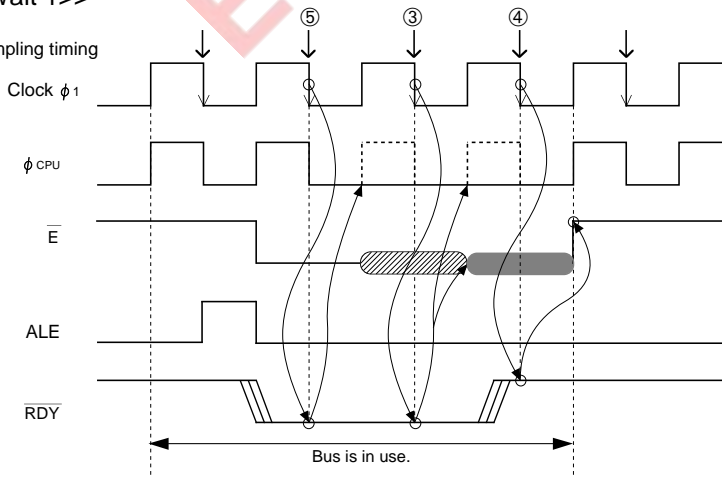

Fig. 12.3.1 Timings when ready state is accepted and terminated
- When the level of signal  $\overline{\text{E}}$  is "H" while the bus is in use (Refer to ② in Figure 12.3.1.)
- Immediately before a wait generated by the software wait (Refer to ⑤ in Figure 12.3.1.)
When “L” level is input to pin  $\overline{\text{RDY}}$ , this signal is accepted at the falling edge of clock  $\phi_1$  and the microcomputer enters the ready state. The ready state can be terminated by setting pin  $\overline{\text{RDY}}$ 's level to “H” again. When “H” level is input to pin  $\overline{\text{RDY}}$ , this signal is also accepted at the falling edge of clock  $\phi_1$  and the ready state is terminated. Figure 12.3.1 shows timings when the ready state is accepted and terminated.